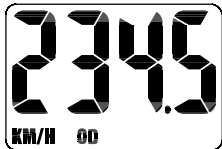

FIGURE 4: PROGRAMMABLE ODOMETER SCREEN
To access the programmable odometer mode, first advance the "MODE" button until (OD) appears on the bottom of the screen. Then hold down the "FUNCTION" button and 'tap' the "MODE" button once. (*See figure 4*) The Km/h indicator will flash. If the Km/h setting is correct press the